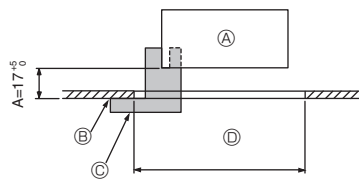
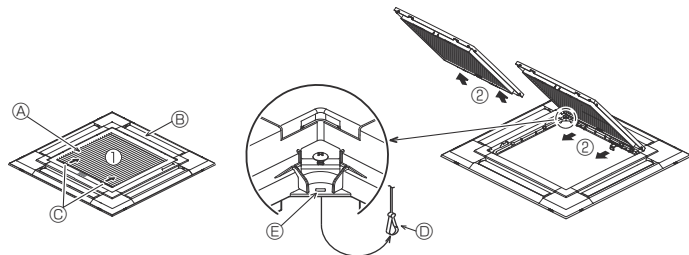
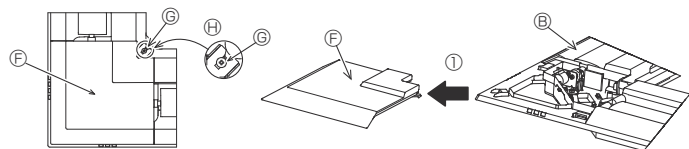

Fig. 9-2
Fig. 9-3
Fig. 9-4
①	Grille	1	950 × 950 (mm)
②	Installation gauge	1	(Divided into 4 parts)
③	Screw (4 × 16)	1	For PLP-6EAE, PLP-6EALAE, PLP-6EALME2
④	i-see Sensor corner panel	1	For PLP-6EAE, PLP-6EALAE, PLP-6EALME2
⑤	Wireless remote controller	1	For PLP-6EALM2, PLP-6EALME2
⑥	Remote controller holder	1	Included when equipped with the wireless remote controller. *
⑦	LR6 AA batteries	2	Included when equipped with the wireless remote controller. *
⑧	3.5 × 16 tapping screws	2	Included when equipped with the wireless remote controller. *
9.2. Preparing to attach the grille (Fig. 9-2)
- With the gauge ② supplied with this kit, adjust and check the positioning of the main unit relative to the ceiling surface. If the main unit is not properly positioned relative to the ceiling surface, it may allow air leaks or cause condensation to collect.
- ① Main unit
- ② Ceiling surface
- ③ Installation gauge ② (inserted into the main unit)
- ④ Ceiling opening dimensions
9.2.1. Removing the intake grille (Fig. 9-3)
- Slide the levers in the direction indicated by the arrows ① to open the intake grille.
- With the intake grille in the "open" position, remove the hinge of the intake grille from the grille as indicated by the arrows ②.
9.2.2. Removing the corner panel (Fig. 9-4)
- Loose the 4 screws on the corner. Slide the corner panel in the direction of the arrow ① in the figure and remove the corner panel.
[Fig. 9-3] [Fig. 9-4]